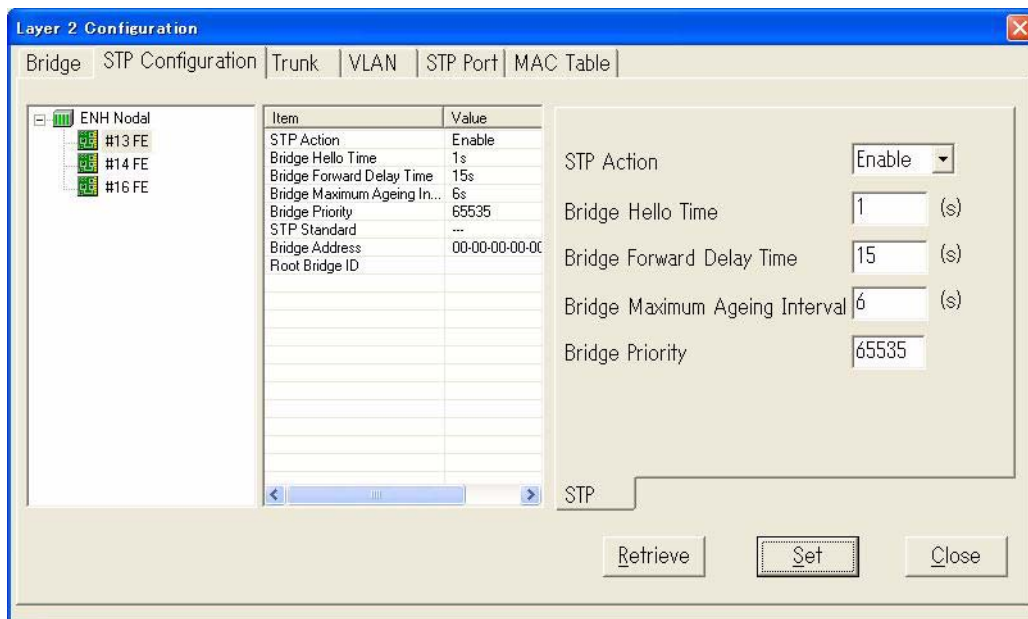

Fig. 4-4-63 STP Configuration
- 1 See *Fig. 4-4-42*, select **STP Configuration** attribute page on the top of window. *Fig. 4-4-63* appears: